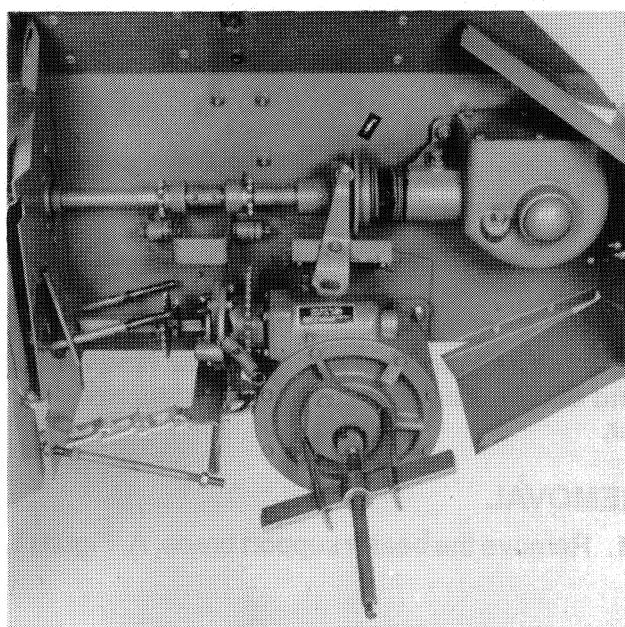

FIGURE 6
7. If the gearbox will not slide from the shaft, attach a gear puller to the shear hub as shown in Figure 6.